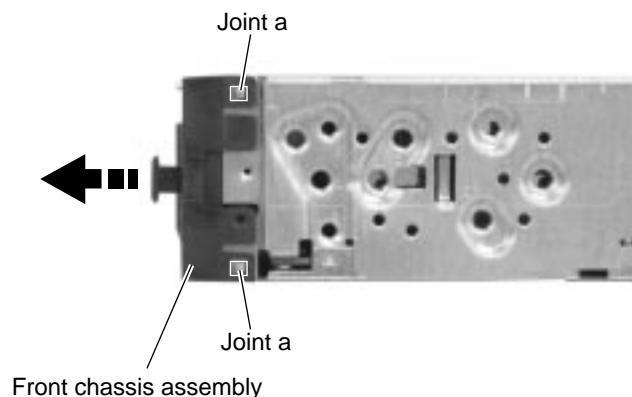

Fig.2
■ Removing the front chassis assembly (See Fig.2 , 3)